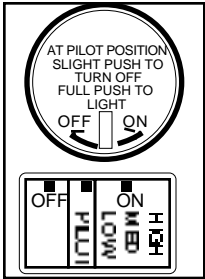

Figure 8
1. Using the pre-drilled holes on bottom of FRONT LOGS, place the left and right FRONT LOGS over the front locator pins to obtain **the maximum distance** from the CENTER TEE BURNER (see Figure 8). Place the REAR LOG on the rear of the grate behind rear locator pins.
1. Slightly push in **Valve Knob** and turn completely clockwise to "OFF" (Figure 8).
8. For complete shutdown, slightly push **PRIMARY GAS SUPPLY VALVE** (Figure 8) knob in and turn clockwise to "OFF".